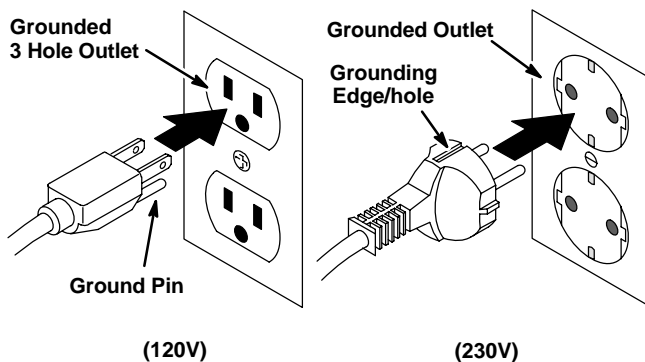

FIG. 26
- With the charger DC outlet connector disconnected from batteries, plug charger power supply cord into a grounded wall outlet (Figure 26).